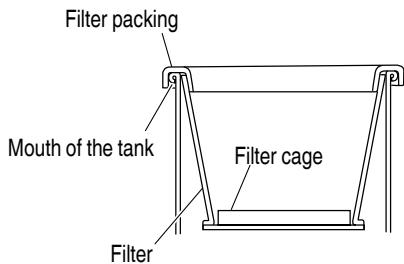

Fig. 15
- (3) Check that the filter packing is put on the mouth of the tank. (Fig. 15)
- (4) Check that the filter cage is on the bottom of the filter. (Fig. 15)